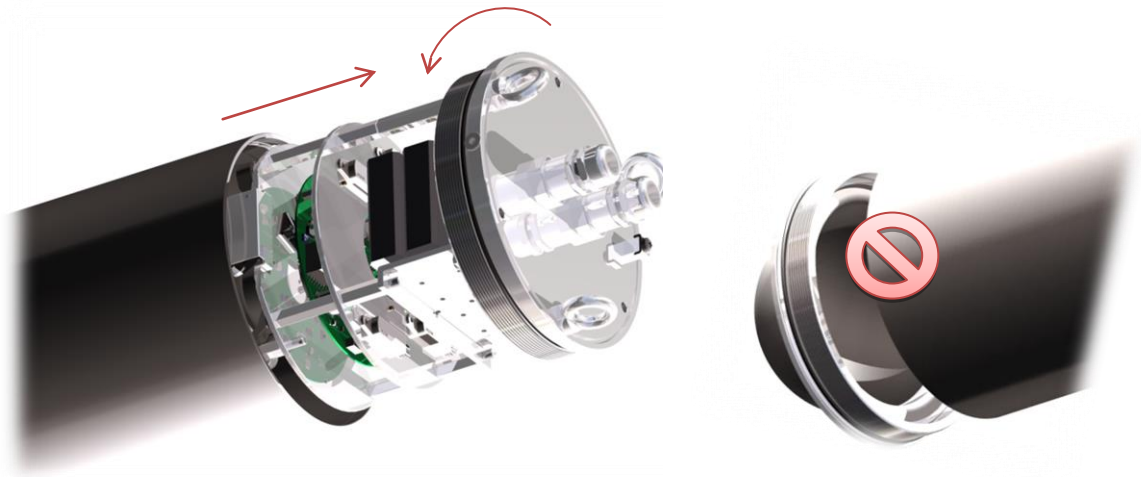

Figure 10-9 Opening of the cover flange type T08-TNXCD
- Counterclockwise, unscrew the cover flange with fine thread (M188x1.5) (ISO-metric profile clockwise). It is suggested to equip the external M8x1.25 thread holes with screws, eyelets etc. in order to facilitate the rotary movement (q.v. figure 10-9). Attention: Also rotate the cable (pig tail) if necessary!